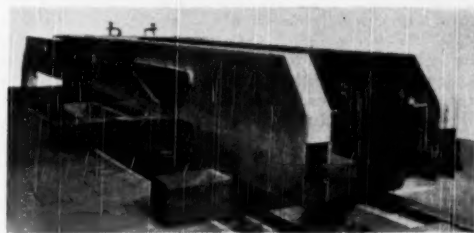

FIG. 6 BOGIE FRAME, LEADER CLASS
**All-Welded Construction.** The bogie side frames are hollow, and fabricated head stocks, cylinder block, and cross-stays are welded to them, forming a monoblock, Fig. 6. The main frame is fabricated by arc welding and carries the water tanks, the coal bunker, cross-members supporting the boiler and other stretchers, all of which are welded to it. The grate and ashpan are carried by the main frame as are the end cabs and casings.